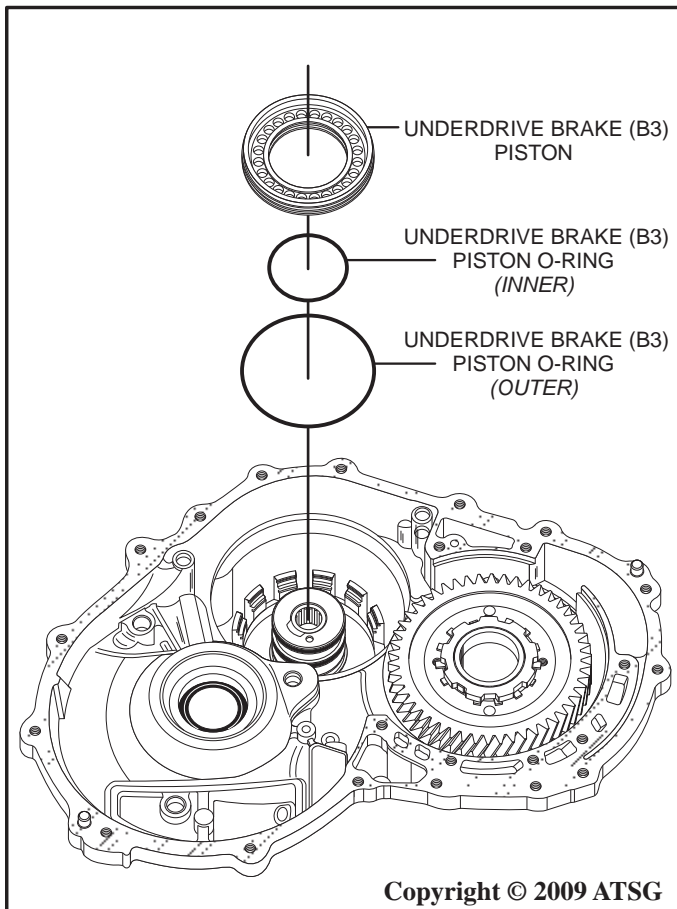

Figure 187
83. Install a new inner and outer o-ring onto the underdrive brake (B3) piston and coat both o-rings with a small amount of Trans-Jel® as shown in Figure 187.
84. Using a twisting motion, install the underdrive brake (B3) piston into the case as shown in Figure 187.